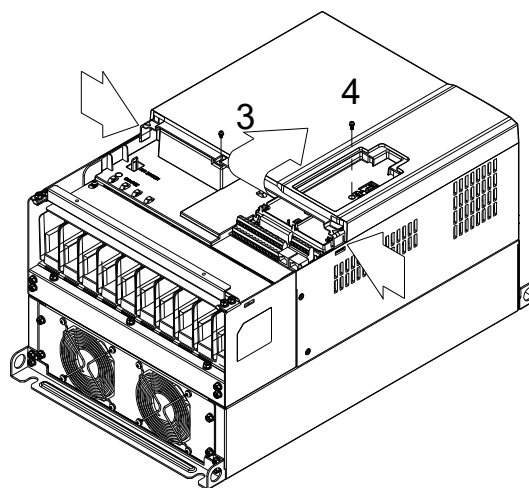

Figure 2
2. (Figure 2) Loosen screw 3 & 4, press the tab on the right and the left to remove the cover. Screw 3, 4 Torque: 6–8 kg-cm / [5.2–6.9 lb-in.] / [0.6–0.8 Nm]